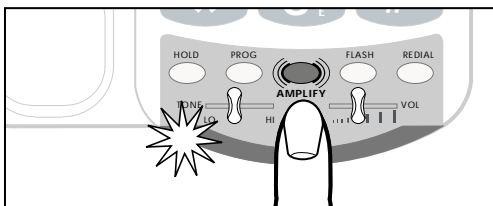

Figure 8 - AMPLIFY Button and Indicator
1. Press the **AMPLIFY** button as shown in Figure 8 to turn the incoming voice amplifier on or off. When **AMPLIFY** is on, the **AMPLIFY** indicator comes on.